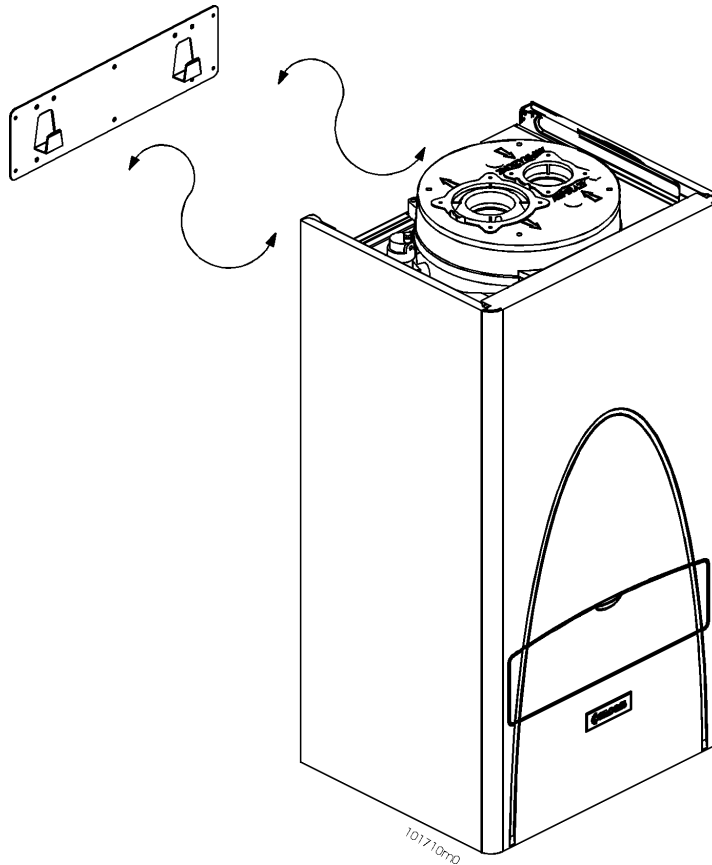

Figure 2 - Support bracket
Figure 4 shows the proper distances that are allowed for the support bracket and wall. (see figure 2)
- Take the support bracket (see figure 2) and choose a position with proper clearances, as per Figure 4.